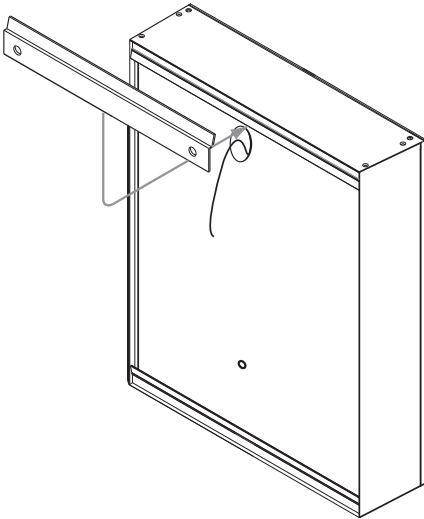
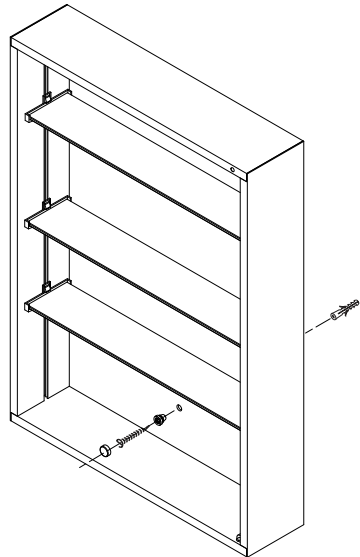

Fig. 3. - Mounting Point
Fig. 4. - Internal fixing point
5. Temporarily hang the cabinet on the top bracket, *see Fig. 3*, and mark the position of the bottom mounting hole on the wall using a soft pencil, then remove the cabinet from the wall, *see Fig. 4*.
8. When the product is wired correctly, hang the cabinet on the top bracket, *Fig. 3*, and secure the cabinet with a screw through the bottom mounting hole, *see Fig. 4*. **Take care not to overtighten the screw against the mirror glass, the screw is not load bearing** - It is only intended to prevent the cabinet from moving away from the wall.